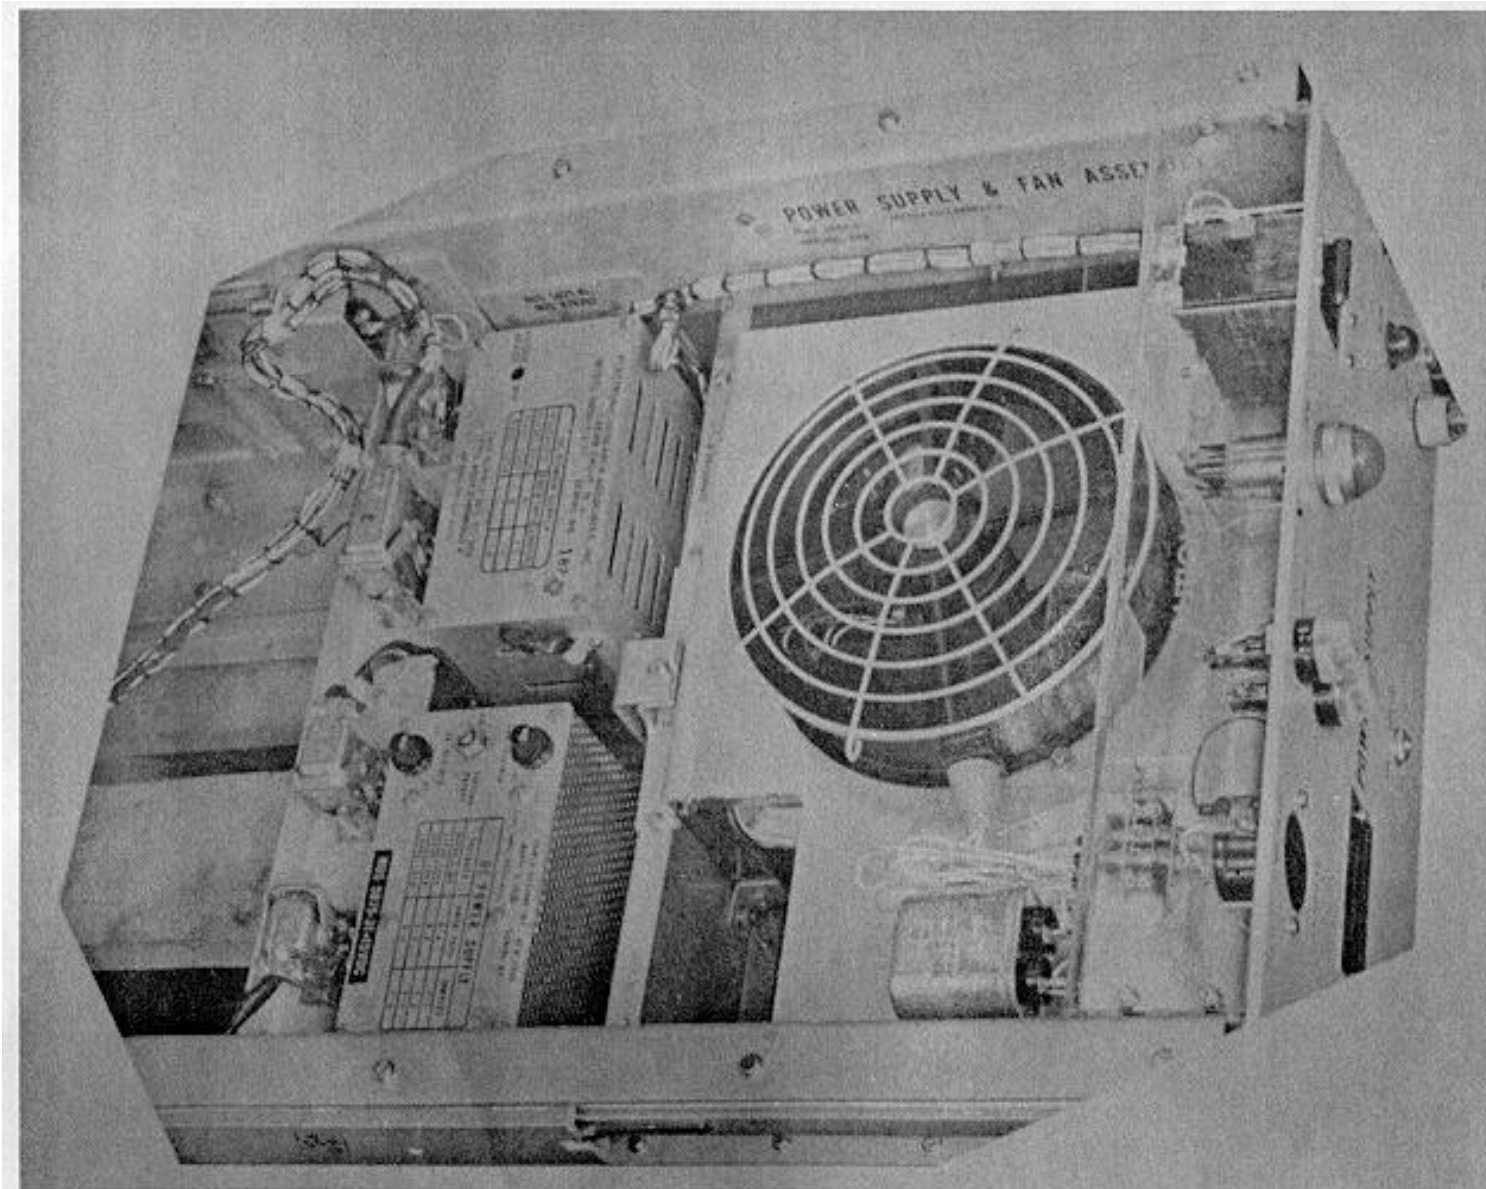
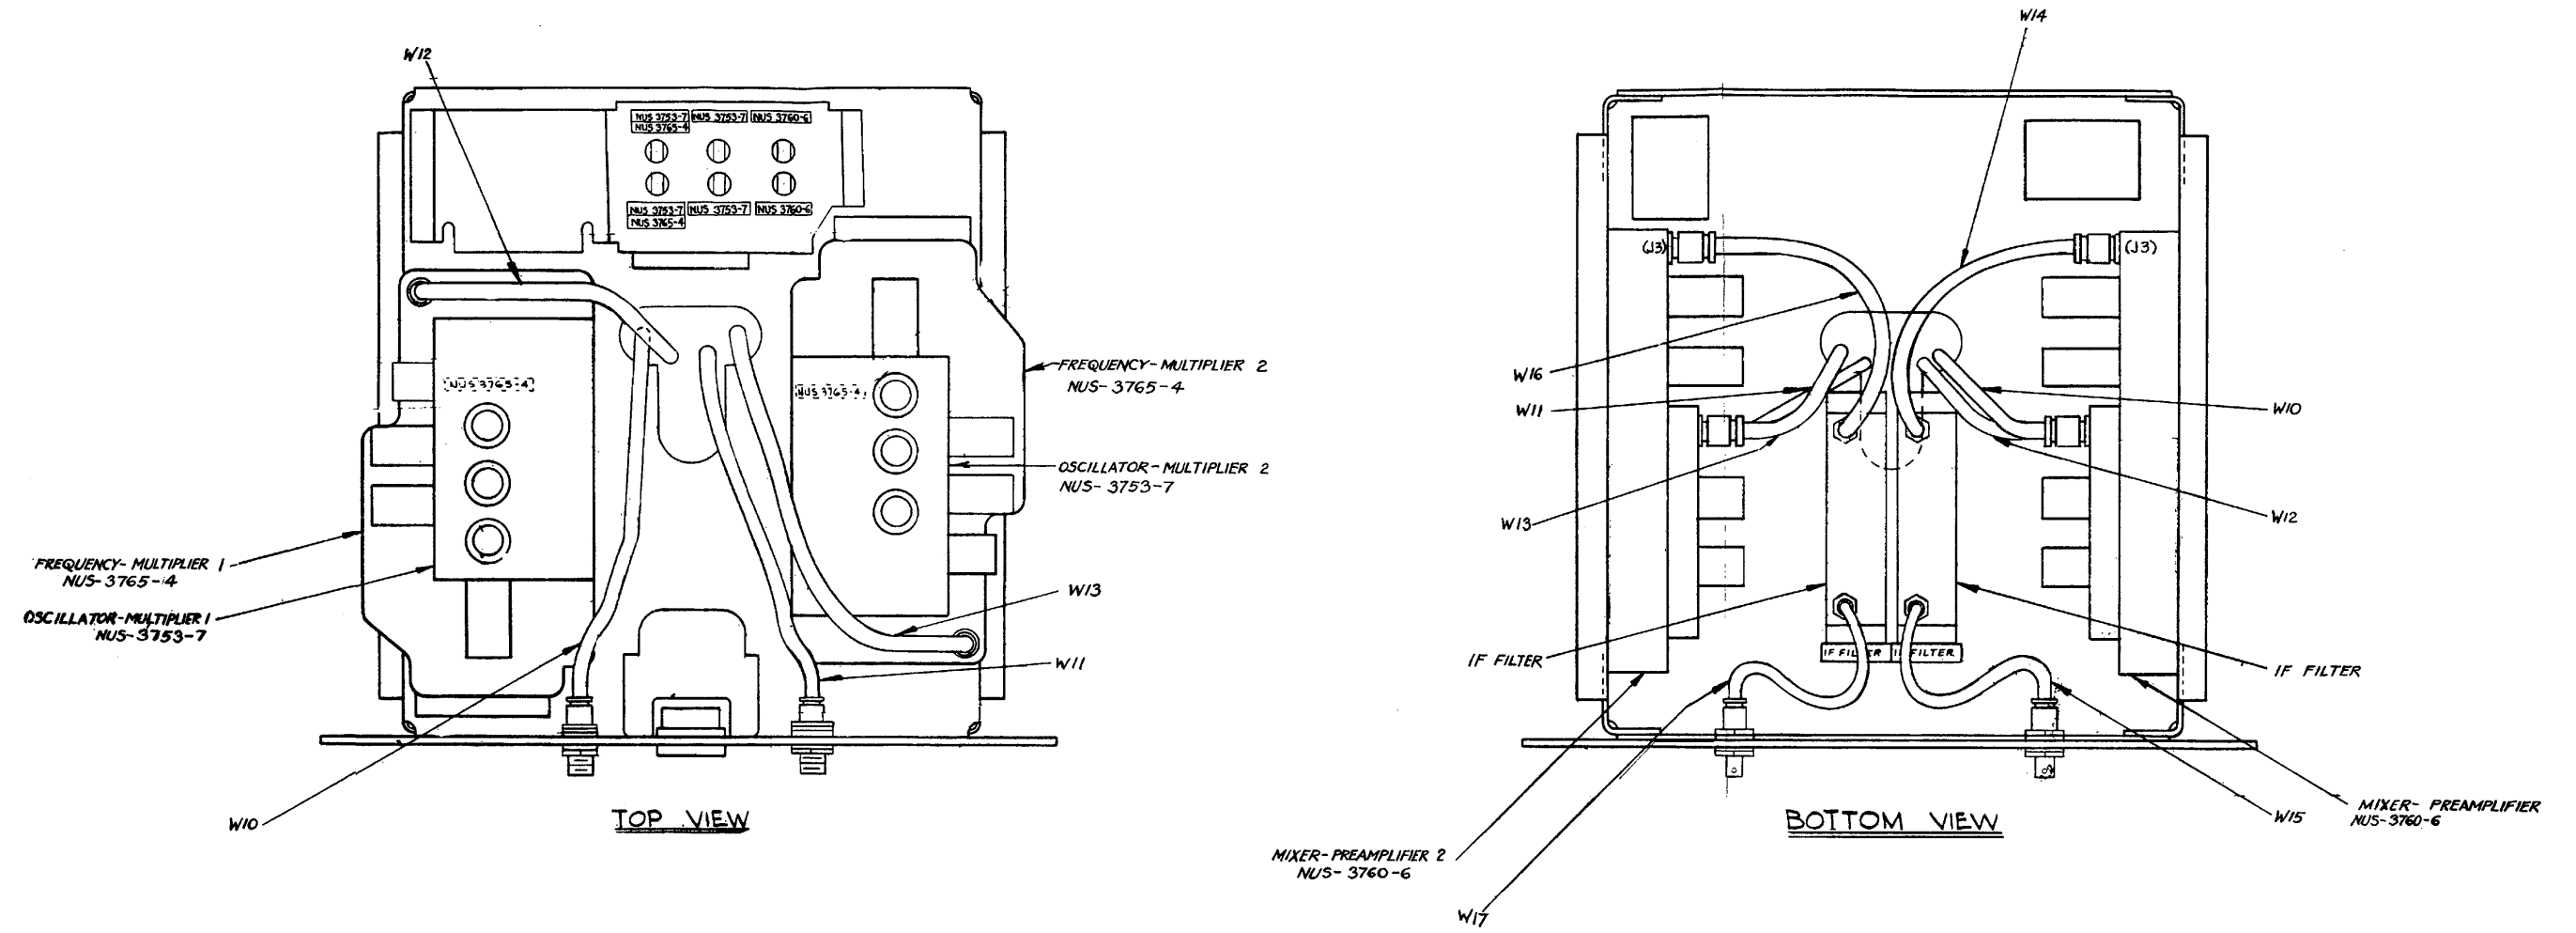

Figure 2-12. Power Supply Drawer, Top View.
Figure 2-16. Preselector and Mixer Drawers (NUS 5961-12, -15, -17, -19, -20 Receivers) Module and Cable Location Diagram
- c. Check each drawer (see figures 2-12 through 2-15) to ensure that all modules are properly secured, all cables are connected, and all tubes are seated properly in their sockets. Figures 2-16 through 2-24 show the module and cable locations in the Preselector and Mixer drawers, the IF and Baseband drawers, and the Ancillary Equipment drawers for all the receiver configurations. The module and cable locations in the Power Supply (NUS 5968-1 or NUS 5981-1) and Dual Parametric Amplifier (NUS 5300-7 or NUS 6580-2) drawers are covered in the module portion of this manual. (Refer to Section VII.)